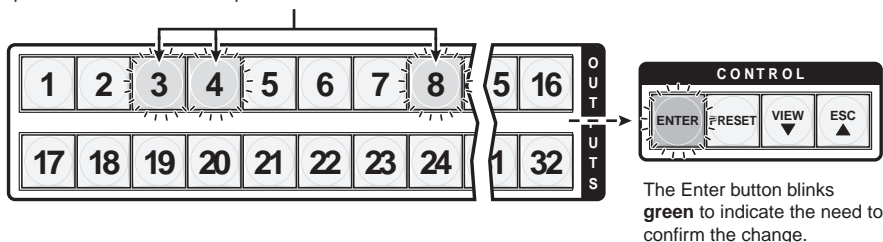

Figure 3-8 — Select the outputs
- Press and release the output 3, output 4, and output 8 buttons (figure 3-8).